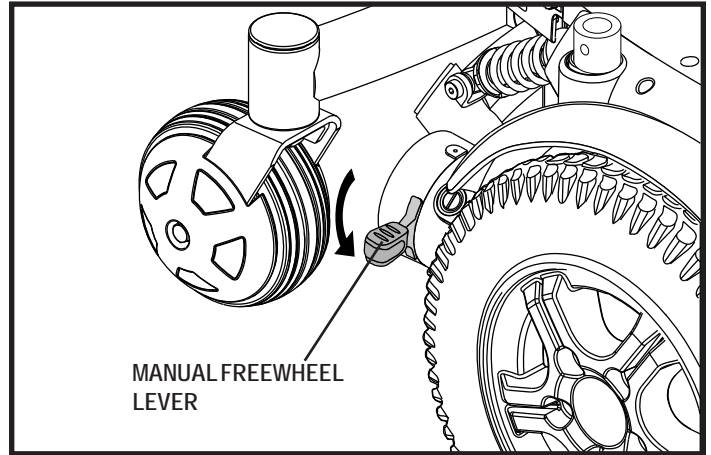

Figure 4. Drive Mode (Drive Engaged)
1. Push down both manual freewheel levers for freewheel mode (drive motor disengaged). **See figure 4.**